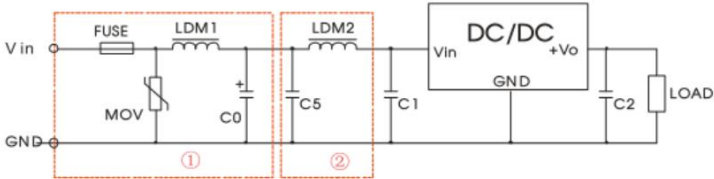

Fig. 4 EMC recommended circuit
RE	CISPR32/EN55032 CLASS B (see Fig. 4-② for recommended circuit)
Note: Part ① in Fig. 4 shows EMS compliance filter and part ② filter for EMI compliance; depending on requirement both filters ① and ② can be used in series as shown.